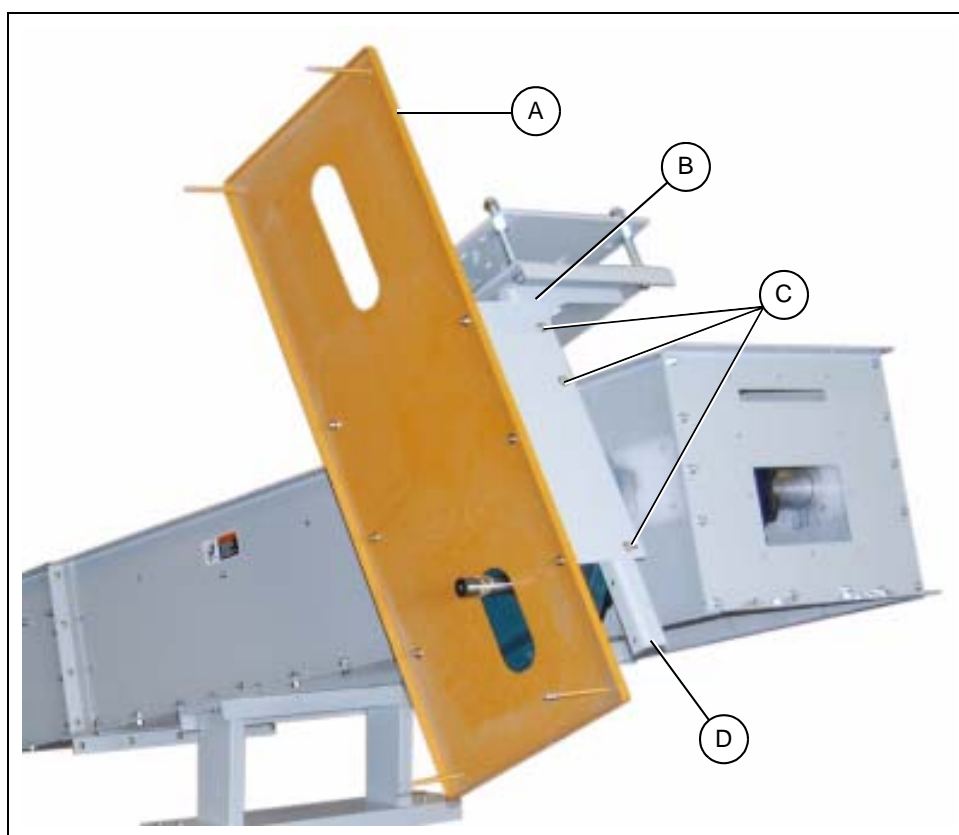

Figure 6AM *Drive Guard Rear Panel*
1. The drive guard rear panel includes belt guard mounting brackets (B) with slotted holes (C) for adjustment. Attach the left hand and right hand belt guard mounting brackets to the motor mount upright brackets (D).
2. Fasten the drive guard rear panel to the belt guard mounting brackets. *(See Figure 6AM.)*